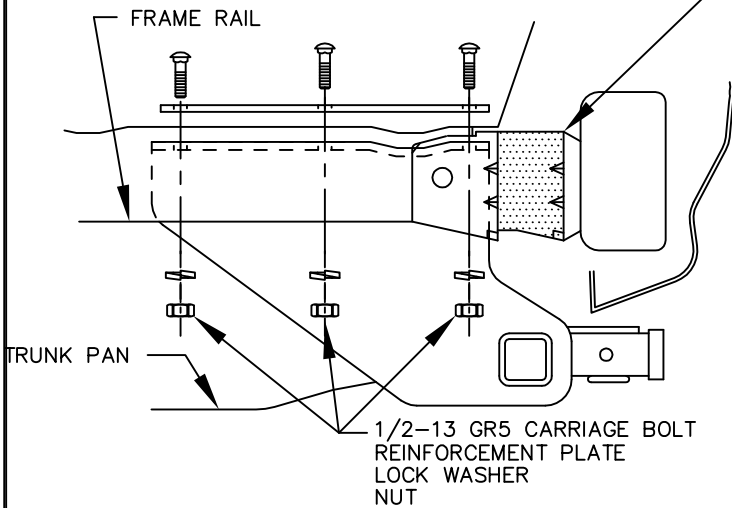

FIGURE 3. DRIVER'S SIDE
12. INSTALL 1/2" CARRIAGE BOLTS DOWN THRU REINFORCEMENT PLATE AND TRUNK PAN INTO HITCH. FASTEN WITH LOCK WASHERS AND NUTS AS SHOWN IN FIG 3.
13. USING REINFORCEMENT PLATE AS A TEMPLATE, DRILL THREE (3) 1/2" HOLES (OUTBOARD OF HOLES DRILLED EARLIER), THROUGH TRUNK PAN, INSTALL REMAINING 1/2 CARRIAGE BOLTS AND FASTEN WITH FLAT WASHERS, LOCK WASHERS AND NUTS.